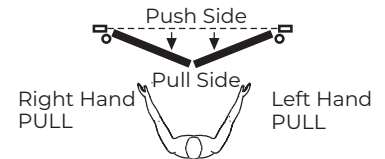

Figure 1
1. Determine right hand or left hand installation. (Figure 1)